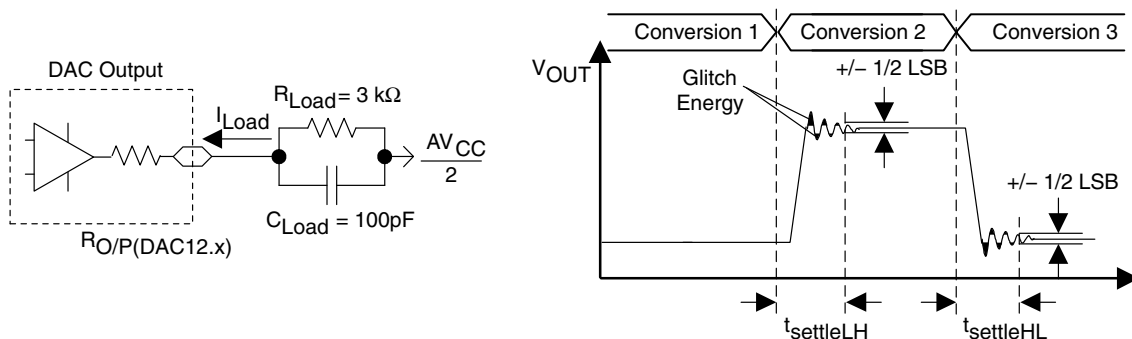
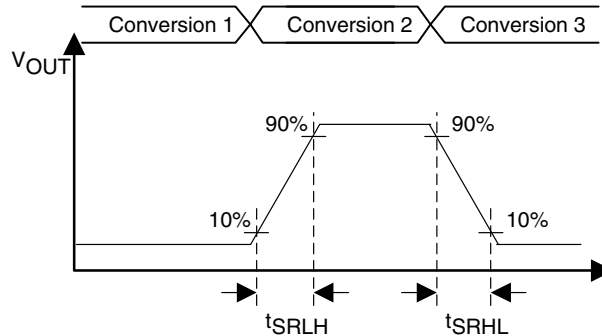

Figure 25. Settling Time and Glitch Energy Testing
Figure 26. Slew Rate Testing
12-bit DAC, dynamic specifications; V_{ref} = V_{CC}, DAC12IR = 1 (see Figure 25 and Figure 26)
| t _{ON} | DAC12_xDAT = 800h, Error _{V(O)} < ±0.5 LSB (see Note 1, Figure 25) | DAC12AMPx=0 → {2, 3, 4} | 2.2V/3V | 60 | 120 | μs |
- NOTES: 1. R_{Load} and C_{Load} connected to AV_{SS} (not AV_{CC}/2) in Figure 25.